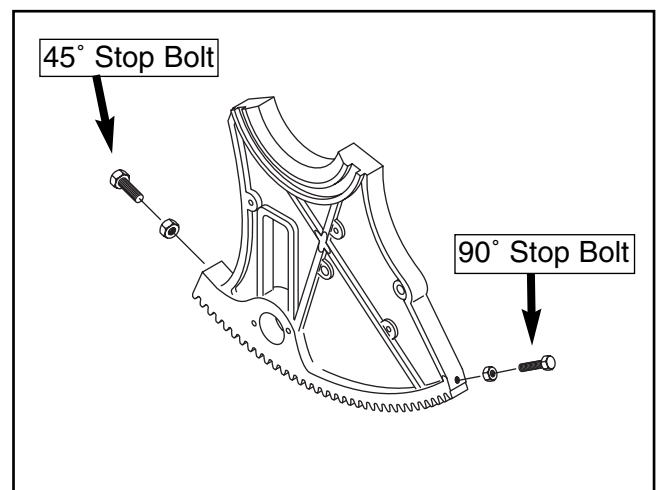

Figure 37. Geared trunnion.
3. Adjust the handwheel until the square is flush with the blade. Loosen the tilt indicator arrow, set to zero, and retighten. Loosen and adjust the stop bolt on the left side of the front trunnion to allow a 90° stop point. See **Figure 37** for details.